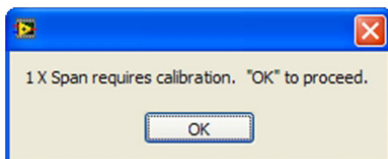

Figure 6.7
- Next, the calibration software determines if the Span reading is within desired limits or not. If the Span reading is within desired limits, the software displays a message saying that the calibration is already within specifications. If the reading is not within the desired limits, then it displays a message as shown in Figure 6.7.
8. The calibration software determines if the Span reading is within desired limits or not. If the Span reading is within desired limits, the software displays a message saying that calibration is already within specifications. If the reading is not within the desired limits, it displays message similar to that in Figure 6.7.